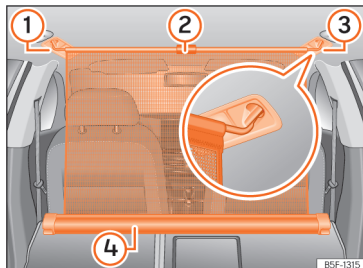

Fig. 193 In the boot: net partition hooked into the rear seat backrests.
- Pull up handle »» Fig. 193 ② to remove the net from the casing ④.
- Hook in the net partition on the right or left side »» Fig. 193 ③ (magnified image).
- Hook in the net partition into the housing on the other side »» Fig. 193 ① by pulling the rod.
The net partition is properly assembled when the T-shaped ends are firmly secured in the corresponding housings »» Fig. 193 ③ and ①.
- Roll up the net into the casing »» Fig. 193 ④ lowering it with your hand.